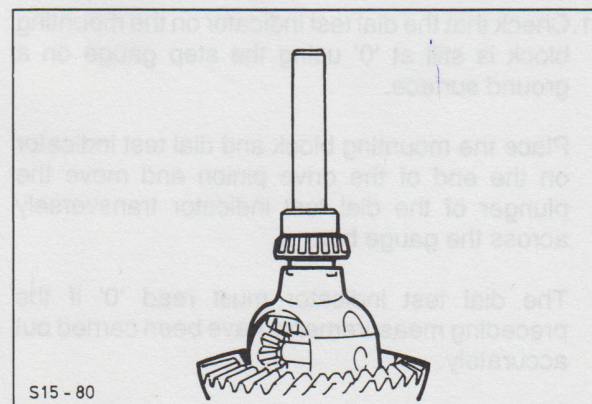

Fig. 60. Press taper roller bearing onto differential using Special Tool 15-032.
33. Press both taper roller bearings onto the differential using Special Tool 15-032, Fig. 60.